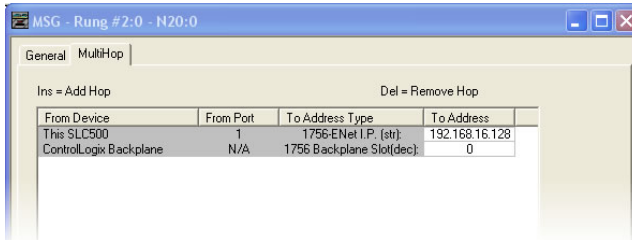

Figure 114: MSG Configuration, "MultiHop" Tab
- e) Under the “MultiHop” tab settings, set the “To Address” in the first row to the drive’s IP address, and the “To Address” in the second row to 0. Refer to Figure 114.